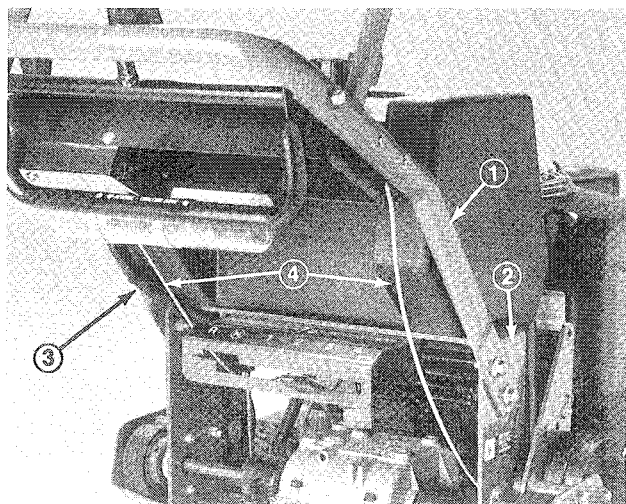

Figure 4
1. Align upper handle mounting holes with desired mounting holes in frame (upper or lower set of holes) and secure each side with (2) 3/8 -16 x 1" lg. flange capscrews and flange nuts. Route cables and wire harness inside of frame (Fig. 4).